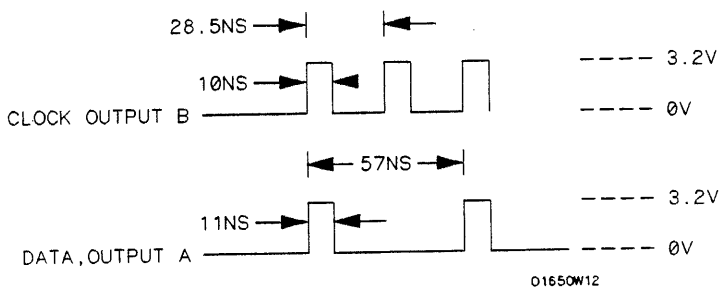

**Figure 3-15. Setup for Data Test 3**
1. Connect the HP 1650B and test equipment as in figure 3-15.